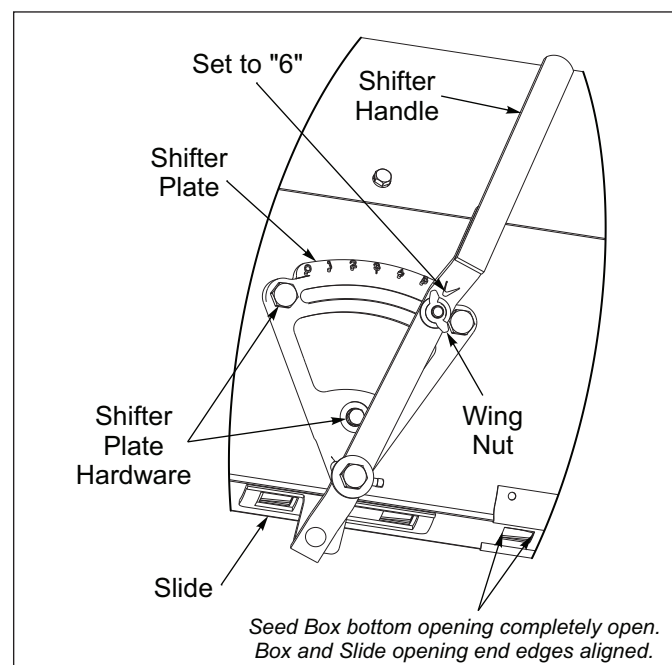

Figure 4-12: Shifter Handle Position at "6"
- Shift the Shifter Handle to "6". The Agitator Box bottom opening should be completely open. **See Figure 4-12.**